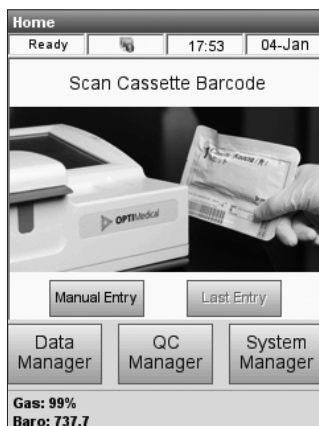

Fig. 4-1 Scan Barcode
1. In the main menu, scan the bottom bar code on the SRC package by holding it 2-3 inches (5-8 cm) from the bar code scanner located on the bottom right-hand corner of the analyzer (Fig. 4-1).